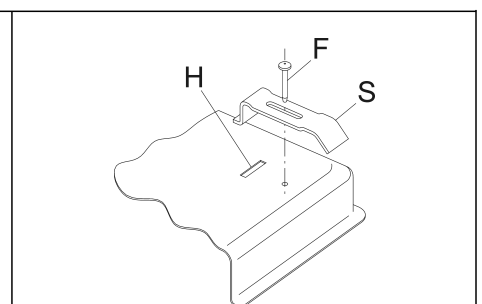

FIG. 6
- Fix the hotplate to the worktop with the brackets "S". Ensure the tag fits into the hole "H" on the hotplate base, then tighten the screw "F" until it is locked to the worktop (fig. 6).